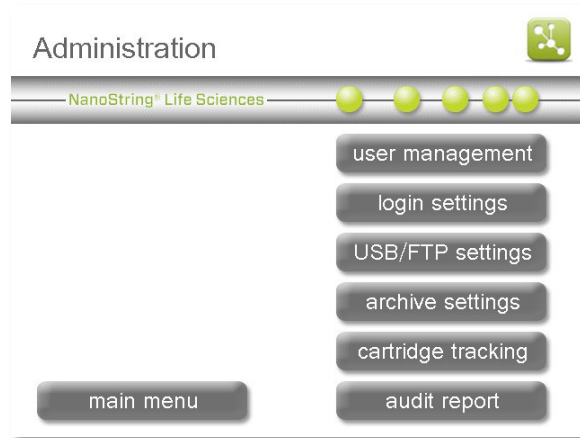

Figure 40: The Administration Menu.
The Administration Menu will appear (Figure 40).
- **role:** Users can be identified as "General" or "Administrator." Administrators have access to the Administration Menu (**Figure 40**) and can create other user profiles.